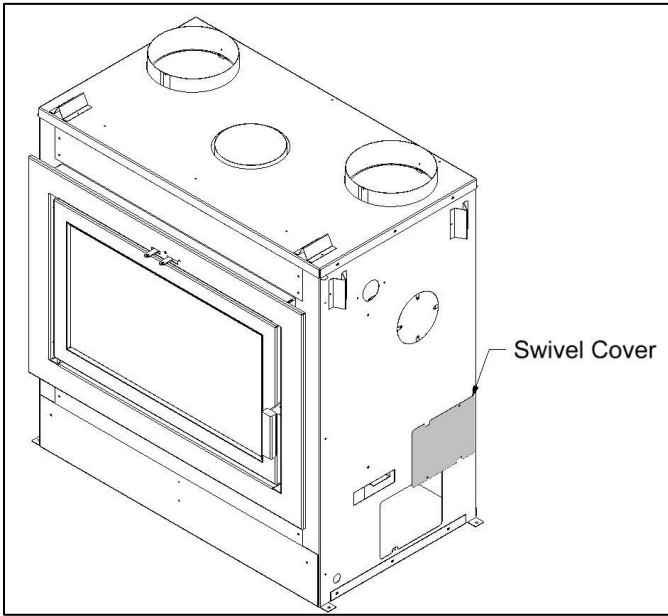

Figure 3-13: Intake Swivel Cover Kept Open for Clean Face Installations
6. Secure the Intake Swivel Covers on the bottom sides of the unit to the **open** position (Figure 3-13).
- The intake swivel covers at the bottom sides must remain open for all Clean Face installations. Refer to Figure 3-13.